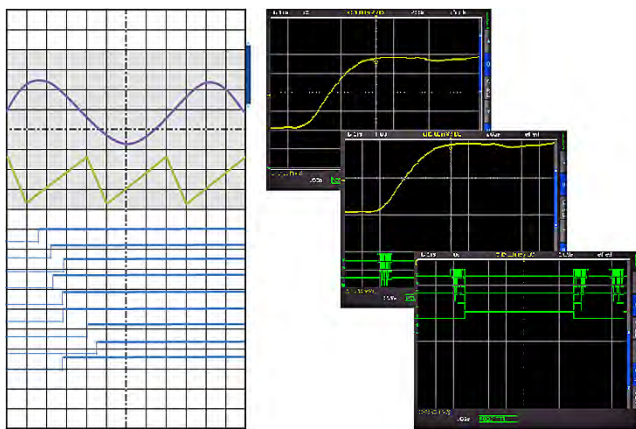

Fig. 7.1: Drawing of the virtual screen area and an example
Fig. 7.1 illustrates the functionality of the virtual screen. The display includes a section of 8 vertical divisions in gray. This section enables you to display analog signals. The small bar next to the graticule indicates the position of the 8 visible divisions within the available 20 divisions. By pressing the **SCROLL BAR** (5) the bar will be activated and displayed in blue and you can use the universal knob to shift the 8 visible divisions (gray section) within the available 20 divisions. This allows a simple and clear display of many individual signal portions.